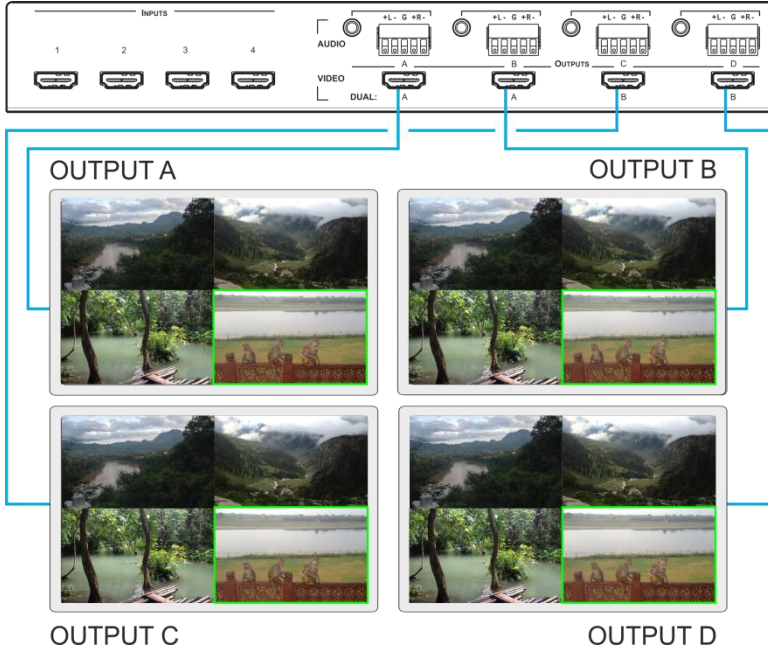

Figure 10: Connecting the VSM-4x4A in Quad Operation Mode
**To connect the VSM-4x4A in Quad mode as illustrated in Figure 10:**
1. Connect an HDMI source to up to four inputs, not shown in Figure 10.